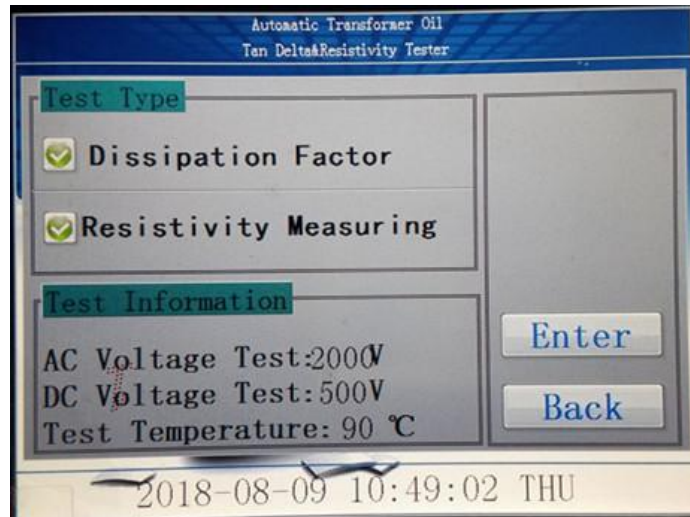
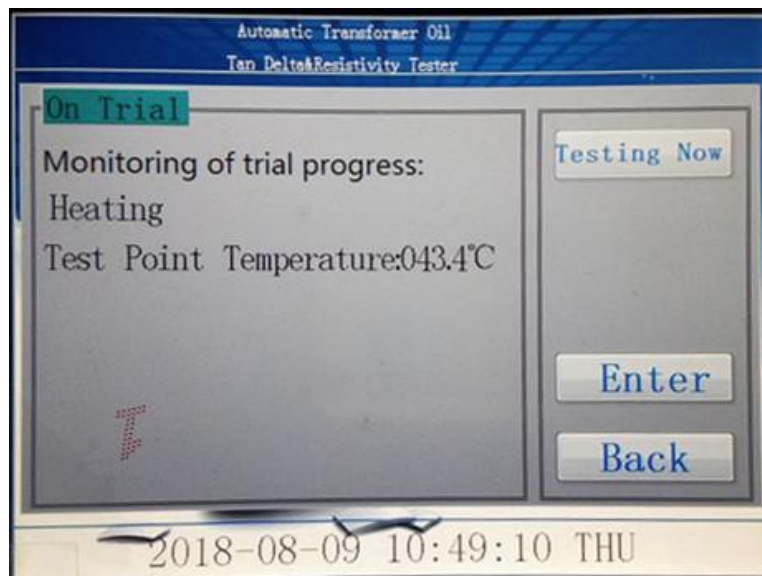

figure 6
figure 7
6). Under the interface of Figure 3, click on the empty cup test to enter Figure 6, the empty cup test is mainly to verify the cleanliness and assembly of the oil cup before oil injection.Can choose 'Dissipation factor' and 'resistivity measuring' by clicking the cursor in front of the test item. The smaller the empty cup loss value, the better.After selecting the test item in Figure 6, click 'Enter' to enter Figure 7,In Figure 7 the device can measure at the set 90 °C, or click 'testing now', measured at the temperature at that time.
the automatic test in Figure 4, enter the interface of Figure 6 and the interface of Figure 7.